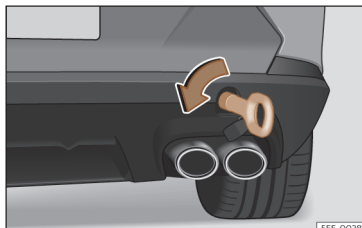

Fig. 46 On the right side of the rear bumper: topline anchorage in position.
- Screw the towing eye in the housing by turning it to the maximum **anticlockwise** >>> **Fig. 46** >>> ⓘ. Use a suitable object that can completely and securely tighten the towing eye in its housing.